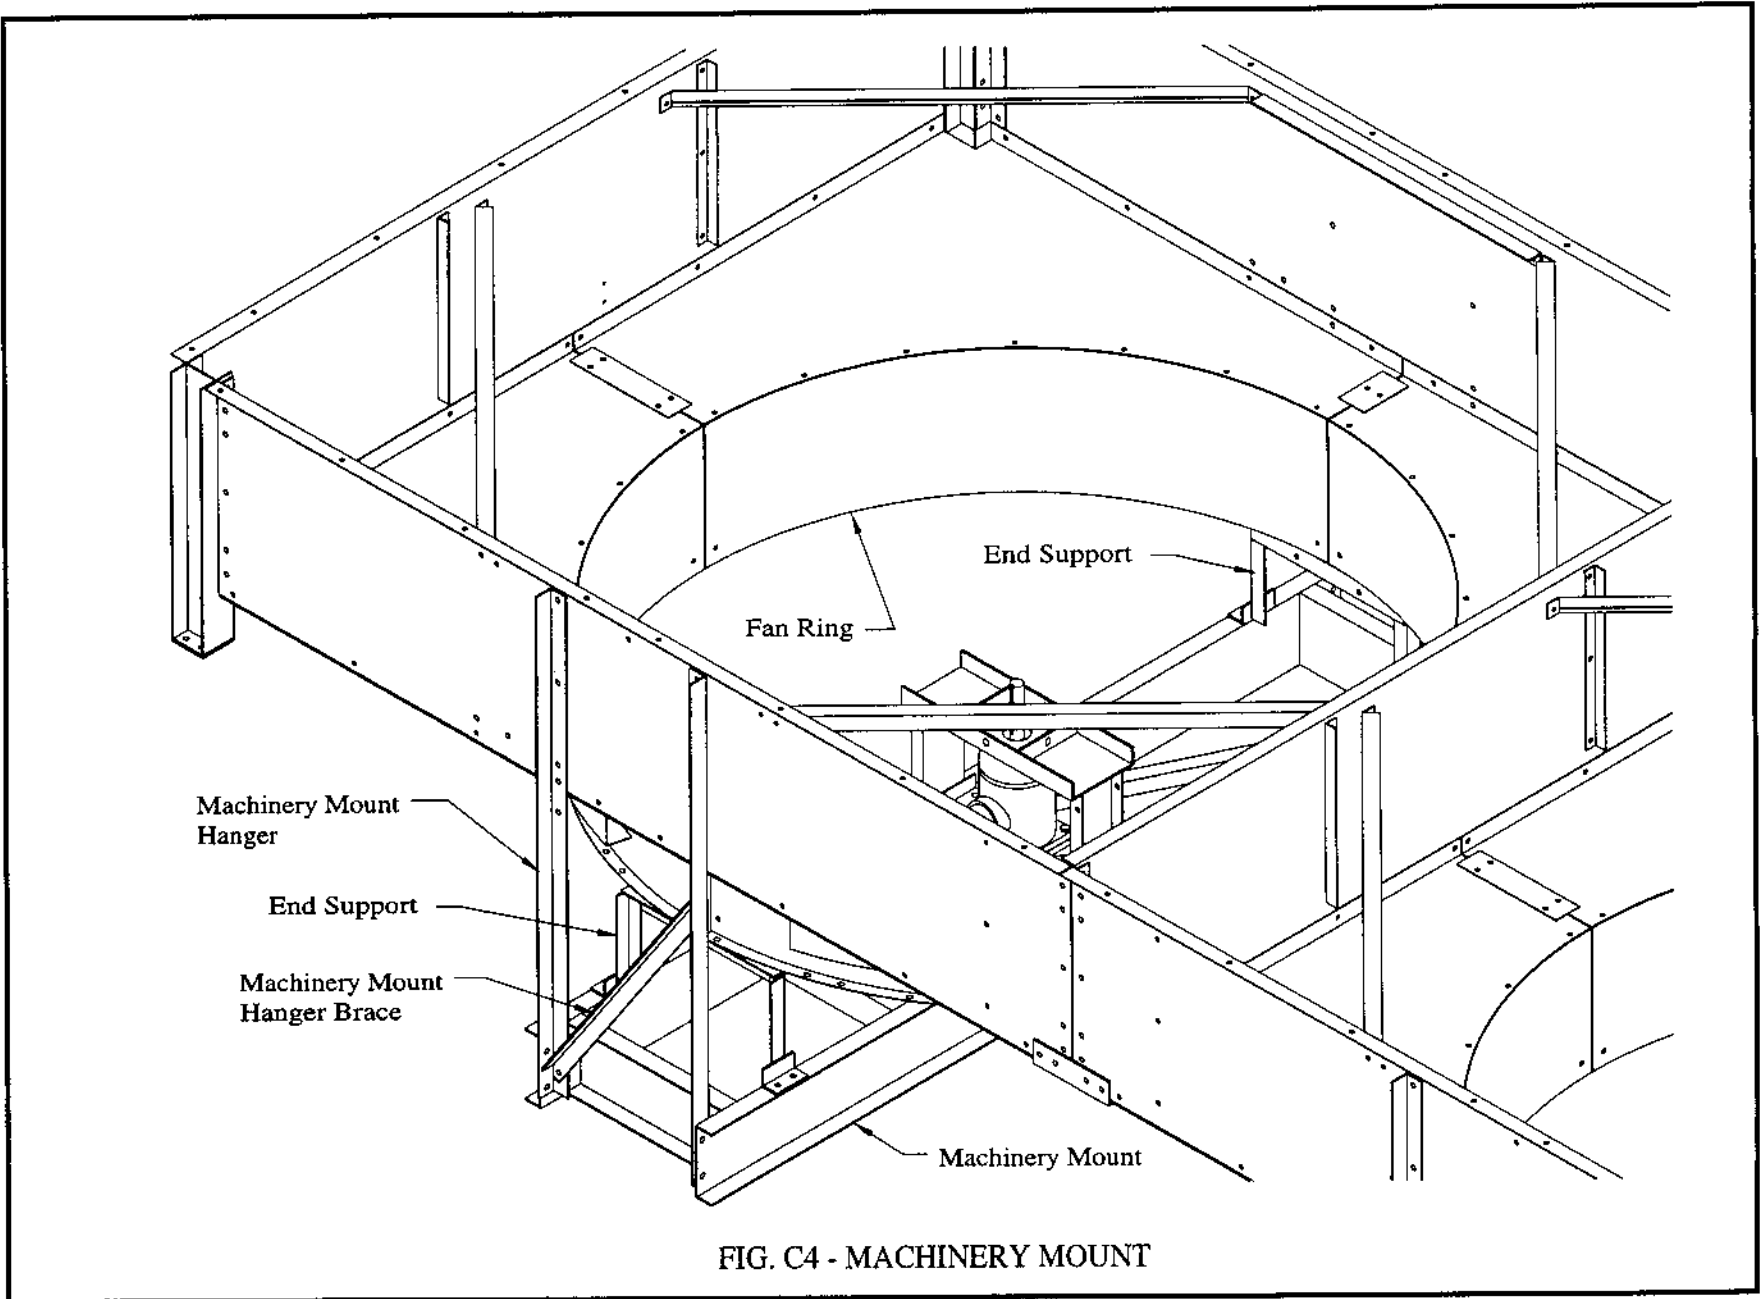

FIG. C4 - MACHINERY MOUNT
5. Attach machinery mount hangers to machinery mount. Attach machinery mount to fan ring and side panels. Attach machinery mount hanger braces to hangers, if provided. See Fig. C4.